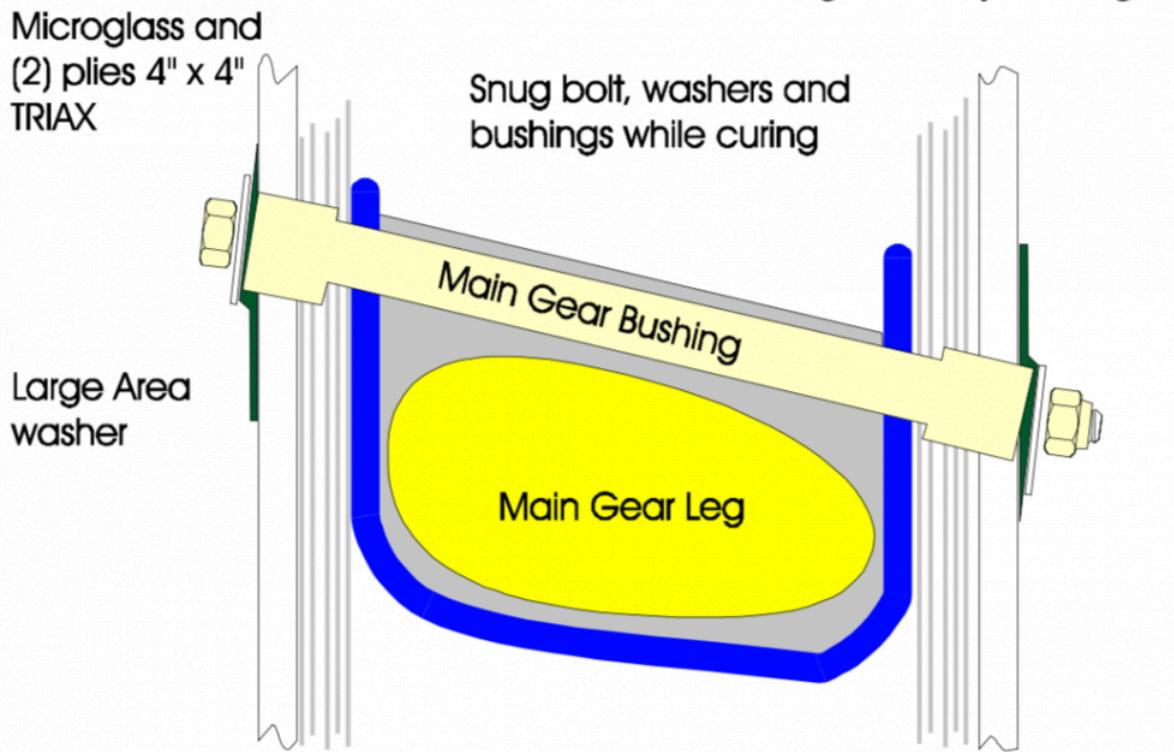

Figure 7-6. Main Gear Installation
- ___ Apply 2 layers of 4" x 4" **TRIAX** (alternating the orientation) over each bushing on the front of the gear bulkhead and on the rear of the firewall. After cure, open the holes back up and reinstall the bolts with the one wide-area washer on each end and a nylock nut. These can be found in the Main Gear Bolt and Bushing Assembly. See Figure 7-6.